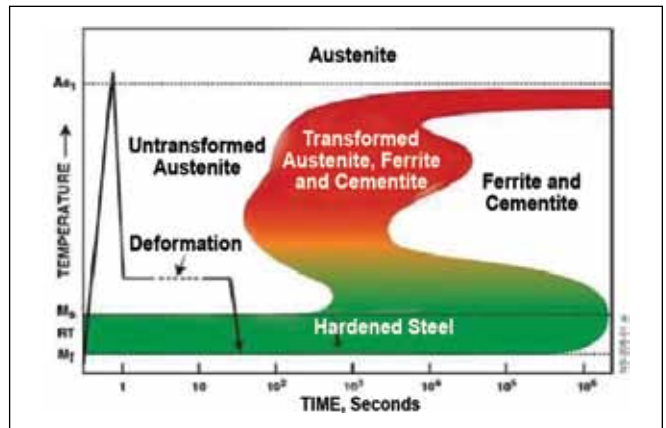

Figure 1—Ausform process schematic.
**Ausform gear finishing.** Ausforming is a modified heat treatment process applicable to medium-to-high carbon, low-alloyed steels wherein the steel is first austenitized followed by interrupted quenching to above the MS temperature to a metastable austenitic state. The part is then plastically deformed in the metastable austenitic condition and finally cooled to martensite. Figure 1 shows a schematic time-tem-